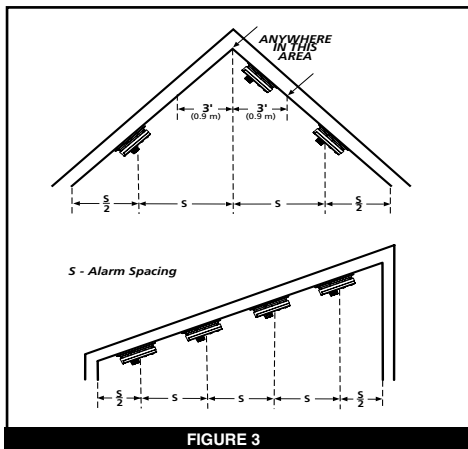

FIGURE 3
- The most favorable mounting location for a heat alarm is on the ceiling in the center of the room. At this location the alarm is closest to all areas of the room (see Figure 3).
- If the alarm cannot be located in the center of the room, an off-center location can be used on the ceiling. When off center mounting an alarm on the ceiling, locate it at a minimum of 4" (10 cm) from the side wall (see Figure 3).
- Install Heat Alarms on sloped, peaked or cathedral ceilings at or within 3ft (0.9m) of the highest point (measured horizontally). NFPA 72 states: "Smoke alarms in rooms with ceiling slopes greater than 1 foot in 8 feet (.3m in 2.4m) horizontally shall be located on the high side of the room." NFPA 72 states: "A row of alarms shall be spaced and located within 3 ft (0.9m) of the peak of the ceiling measured horizontally" (see FIGURE 3).